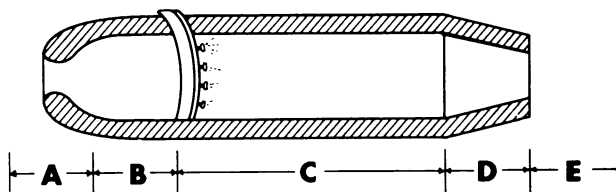

Figure 2F.—Ram-jet engine.
47. The ram jet is designed to build up a pressure barrier when it is in motion. As a result of this barrier, thrust is developed to propel the engine forward. When the engine in figure 2F is traveling at subsonic speeds, the pressure barrier will occur at some point in region
48. When the ram jet shown in figure 2F is in operation, the velocity of air or gases will be greatest in region